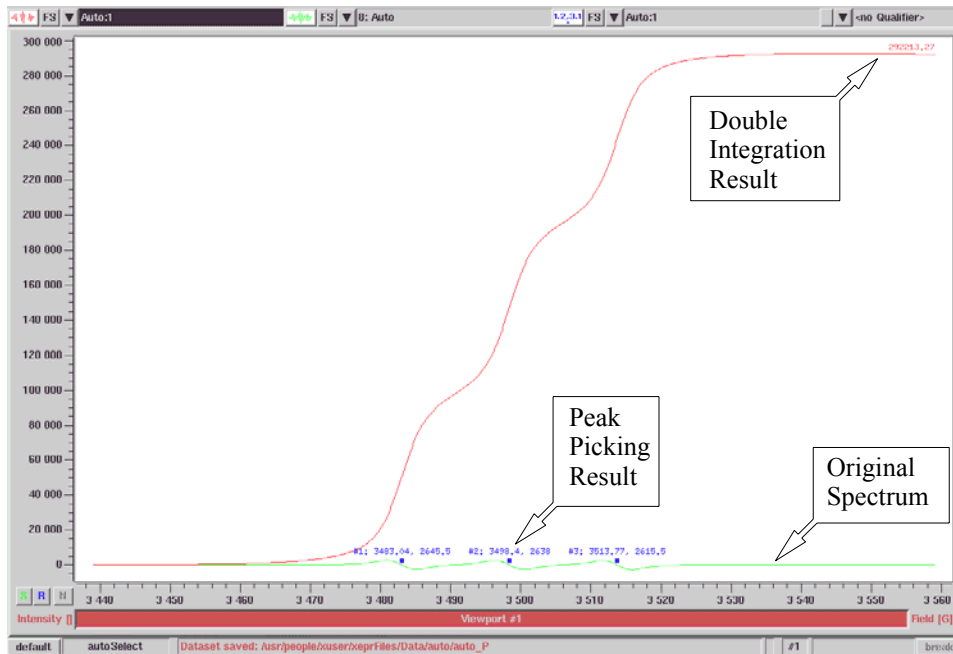

Figure 9-11 Results of a series of auto post-processing routines.
7. **Execute the multiple auto post-processing routines.** Create or load an experiment and set up the parameters. Click Run to acquire the spectrum. The auto post-processing routines should execute sequentially. In this example the results of the auto-processing are shown in Figure 9-11.